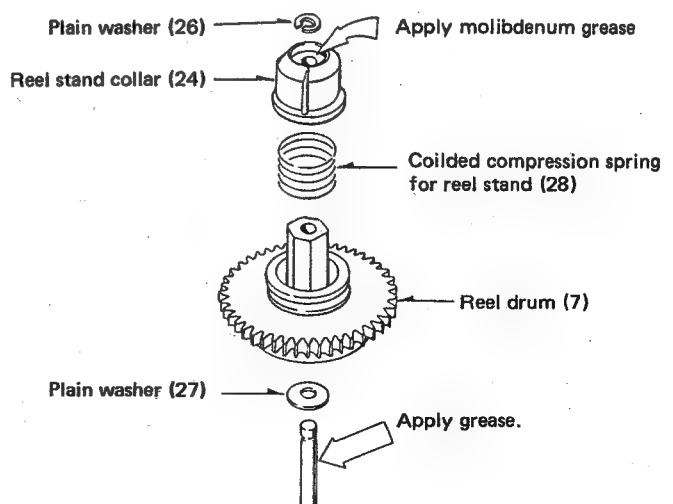

Fig. 3
- 1) Fig. 3 shows the structure of the reel drum (7). The coiled compression spring for the reel stand secures backward tension and provides clearance for the hub when the cassette is loaded.
- 2) If the plain washer (27) is not mounted in the mechanism ass'y, uneven torque will be applied during operation.
- 3) Apply molibdenum grease to the contact surfaces between the reel stand collar (24) and plain washer (26). Apply grease to the reel stand shaft.